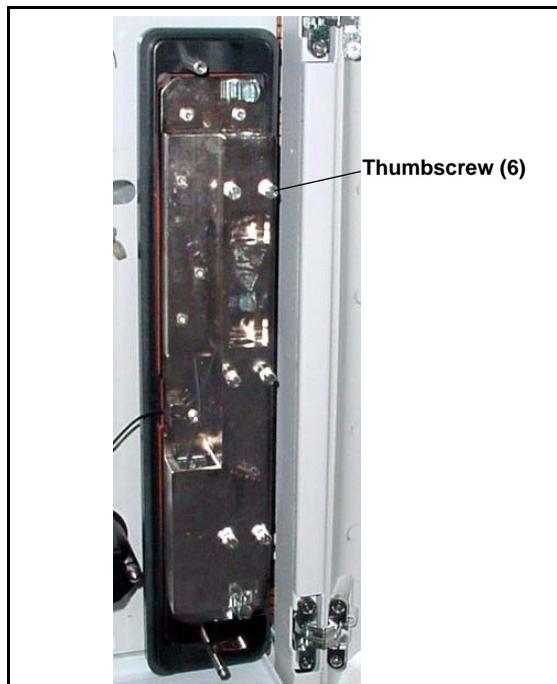

Figure B-19. ICS-1500 Column Heater Cover Removed
4. Unscrew the six thumbscrews on the top metal plate (see Figure B-19) and remove the plate.